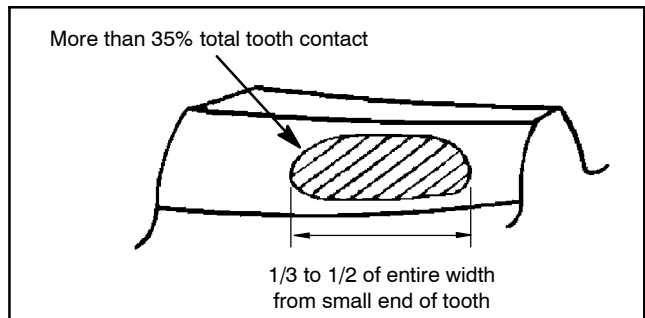

Figure 36
9. Ideal tooth contact should cover more than 35% of each tooth surface. The contact area should be in the center of each tooth and extend 1/3 to 1/2 way across each tooth from the toe (small) end (Fig. 36).